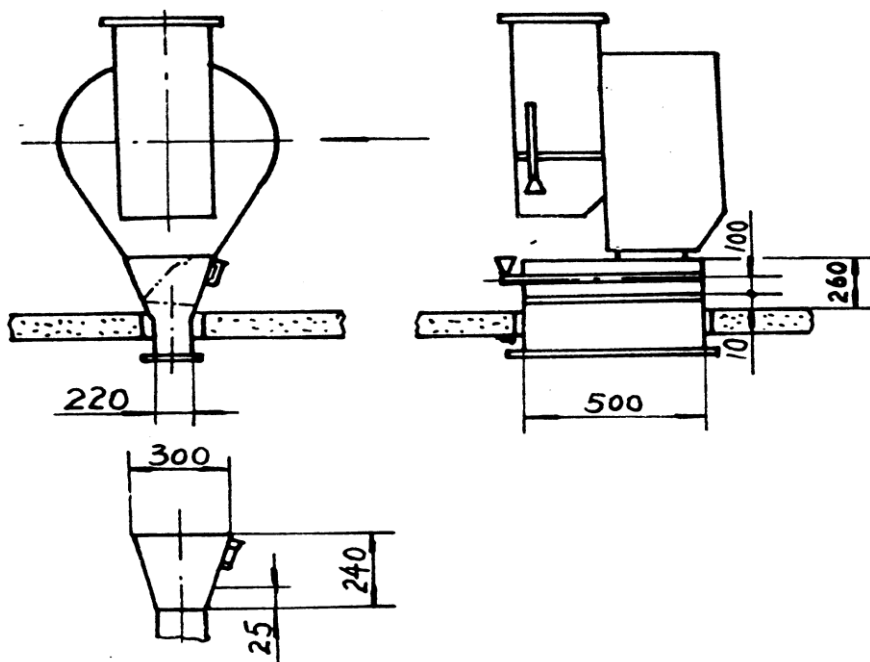

Fig.10 Feed outlet
4.1.3 Generally pellet mill is positioned on the floor where dimension should be digged with proper size of 500x300mm. See Figure 10 for the outlet.